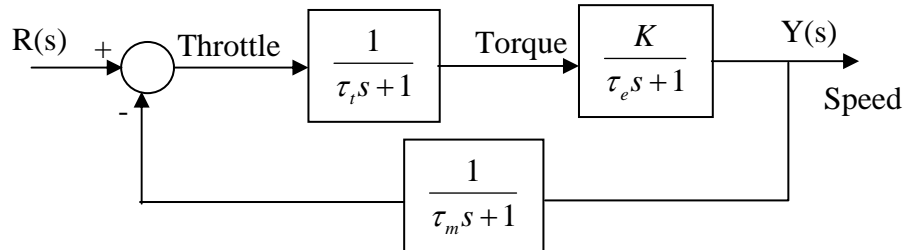

Figure 9.4
9.4 A speed control for a gasoline engine is shown in Figure 9.4. The lag τ_t is equal to 1 second. The engine time constant τ_e is equal to 3 seconds. The speed measurement time constant τ_m is 0.4 second.